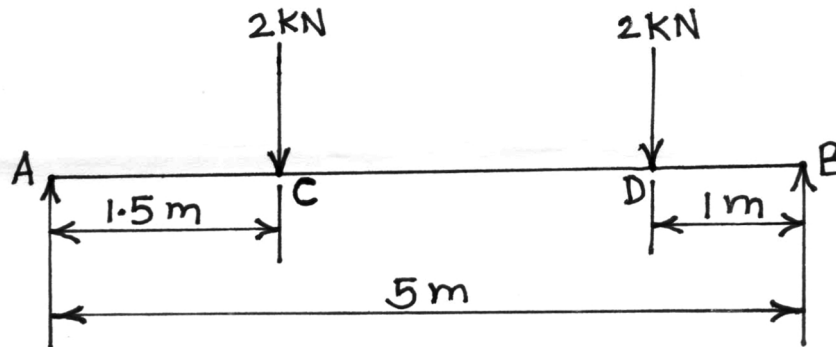

Figure No. 3.
- a) Draw the S.F.D. and B.M.D. for the simply supported beam as shown in Figure No. 3.